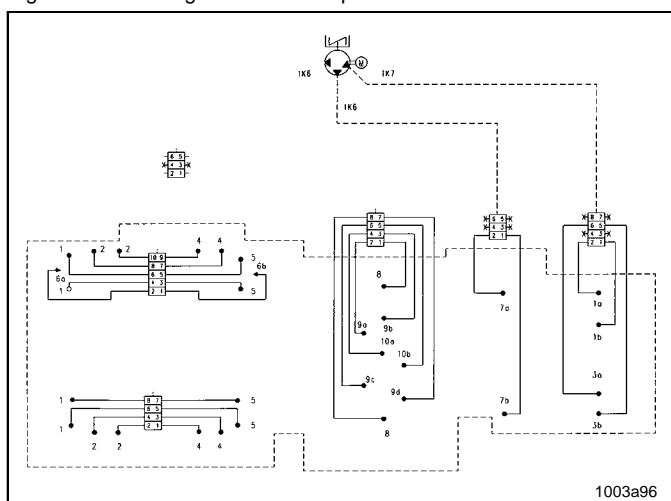

Fig. 37 Determining the size of the main metering device
- Check whether one or more secondary metering devices require larger lubricant quantities. See direct connection of the metering device to respectively one single pump element, example Fig. 37.